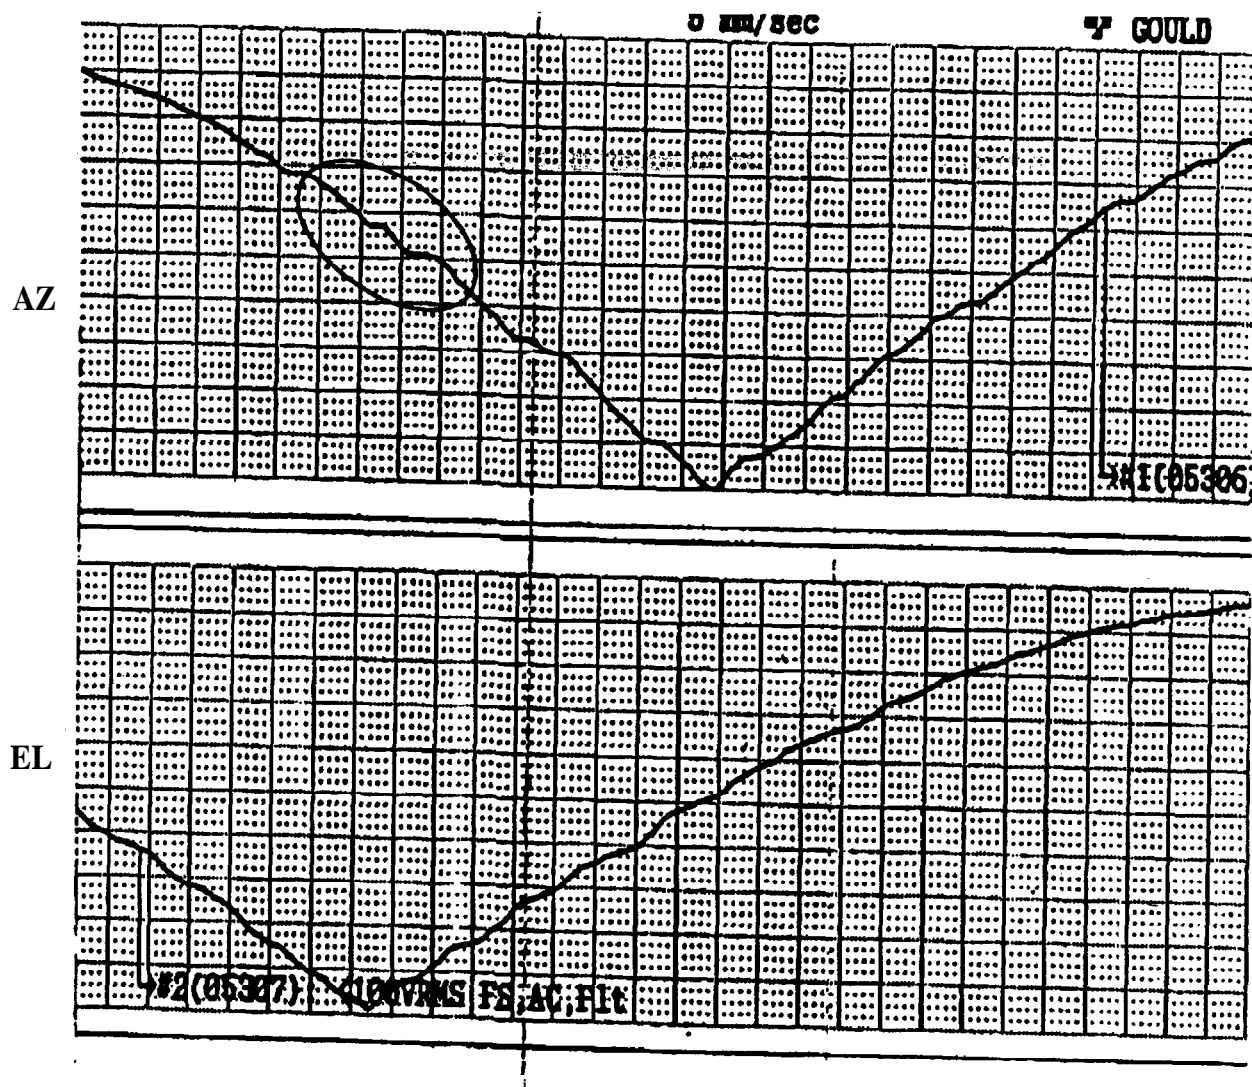

Figure 5-5 Azimuth Servo Gain High
5.11 Azimuth Servo Gain High - Figure 5-5 shows the effects of high azimuth servo gain. Note the ripple in the circled area of the trace. The ripple shows the antenna drove past the radiosonde in both directions, overshooting actual radiosonde position. The high azimuth servo gain causes overshoot due to excessive antenna inertia developed from the high drive rates. Normally, the mechanical motion damping provided by tachometer feedback would control overshoot. In figure 5-5, azimuth servo gain was high enough to overcome tachometer feedback, resulting in overshoot.